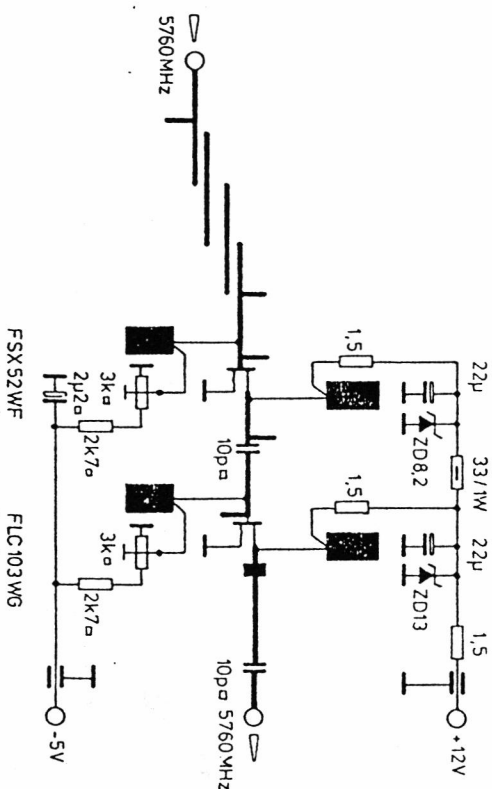

Fig.6.1 Circuit of the final amplifier DL1RQ 661
6. At the input of the final stage module (Fig.6.1) we find a further stripline filter, which suppresses all unwanted frequencies to below the 60dB level. My own preparatory tests indicate the filter's attenuation in through-pass mode to be approx. 2.5dB.